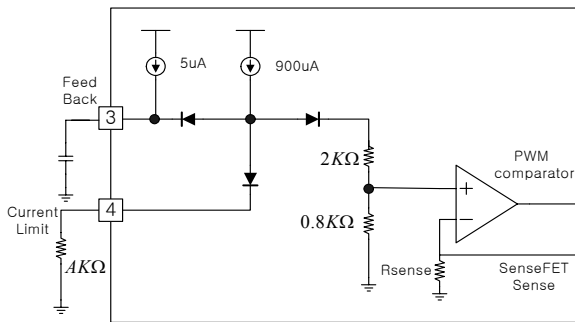

Figure 14. Peak current adjustment
8. Adjusting Current limit function: As shown in fig 14, a combined 2.8kΩ internal resistance is connected into the non-inverting lead on the PWM comparator. A external resistance of A on the current limit pin forms a parallel resistance with the 2.8kΩ when the internal diodes are biased by the main current source of 900uA.